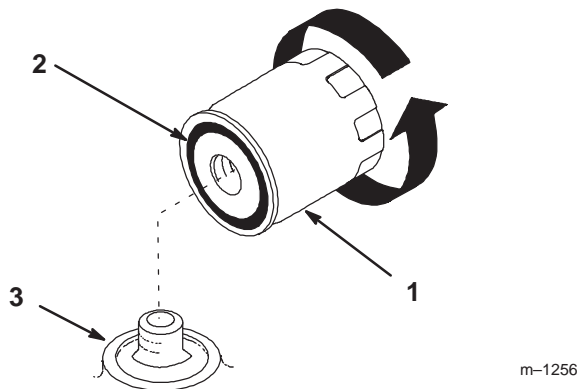

Figure 25
- Remove the old filter and wipe the filter adapter (Fig. 25) gasket surface.
- Apply a thin coat of new oil to the rubber gasket on the replacement filter (Fig. 25).
- Install the replacement oil filter to the filter adapter. Turn the oil filter clockwise until the rubber gasket contacts the filter adapter, then tighten the filter an additional 3/4 turn (Fig. 25).